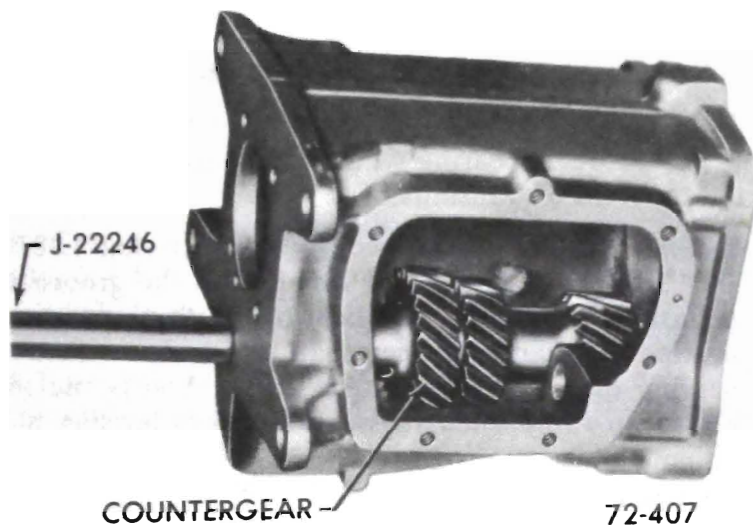

Figure 72-44 - Removing Countergear With Tool J-22246
15. From front of case, tap out countershaft, using countershaft alignment tool J-22246 as shown in Figure 72-44. Remove the countergear and both tanged washers.